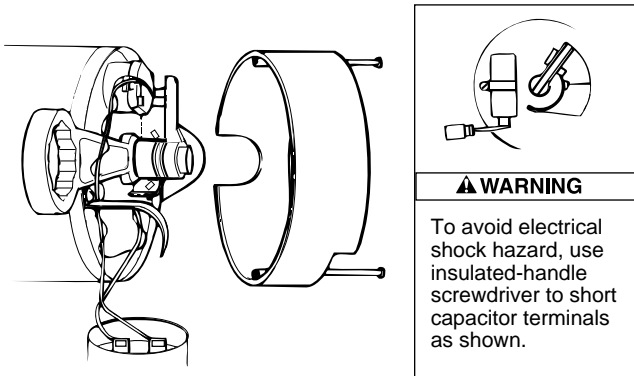

Figure 21 – Hold Shaft
- If impeller must be replaced, loosen two machine screws and remove motor canopy (see Figure 21).
- WARNING** Capacitor voltage may be hazardous. To discharge capacitor, hold insulated handle screwdriver **BY THE HANDLE** and short capacitor terminals together (see Figure 21). Do not touch metal screwdriver blade or capacitor terminals. If in doubt, consult a qualified electrician.